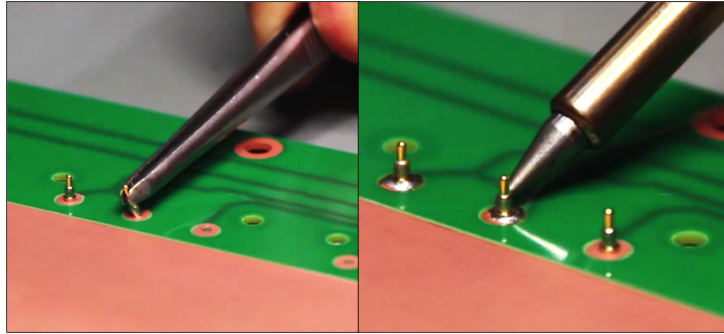

Figure 19: Soldering of the HV pins.
Step 3: Gently place the HV pins in the dedicated housing, making sure that the pins are vertically aligned within the holes (Fig. 19 left).
Step 4: Apply the soldering tin all around the base of the pins while heating the pads with the iron (Fig. 19 right). Keep the temperature below 350 °C to avoid melting the glue that keeps the copper pads attached to the PCB.